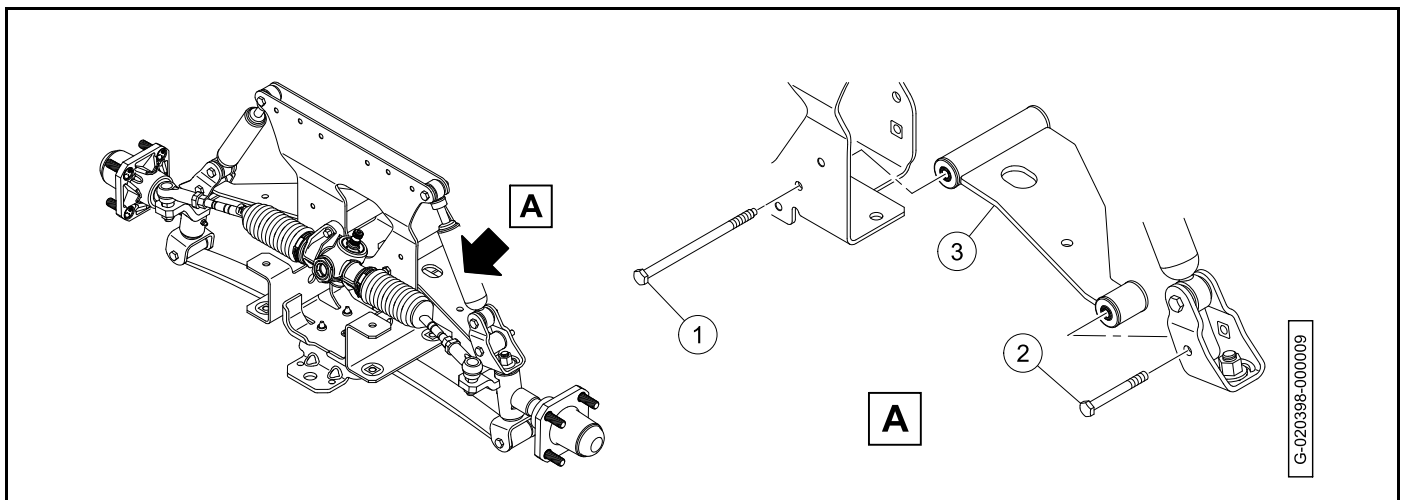

Figure 7-21
5. Move the rack and pinion (2) to allow clearance for the control arm bolts.
6. Remove the bolts (1 and 2) (Figure 7-21).